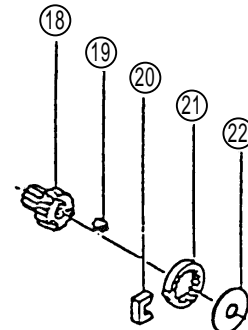

Fig. 6
- [2] Be very careful not to bend the leadwires of the FET where they are connected to the Switch (41).
(2) Reassembly of the Motor Section:
- [1] Assemble the Idle Gear (18) and Ring Gear (21) in sequence onto the Gear Holder (18), and apply grease (Hitachi Motor Grease No. 29 is recommended) to the inside of the Ring Gear. Finally, put the Washer (22) on the Ring (21). (Fig. 6)